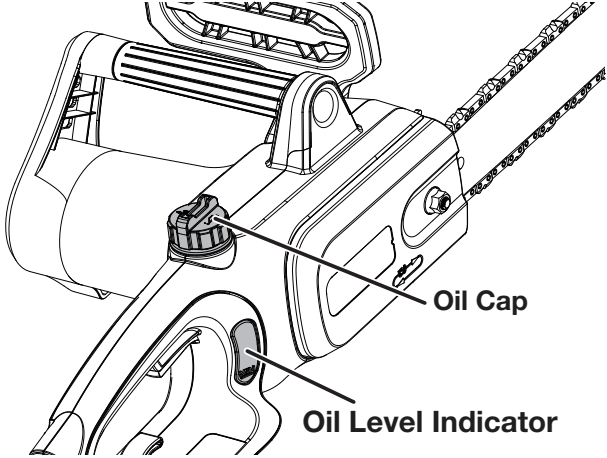

Fig. 4
- Remove the oil cap (Fig. 4). Fill the reservoir with bar and chain oil (SAE30) until the oil level has reached full capacity.